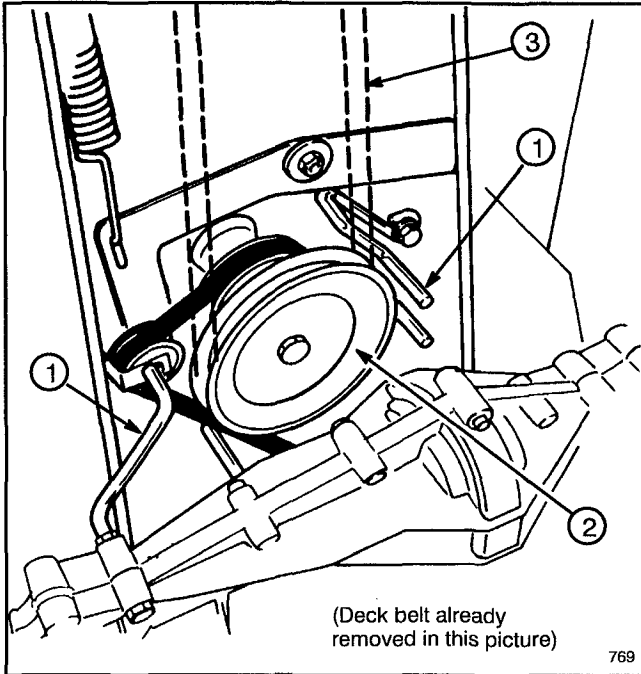

Figure 23
4. Loosen belt guides near engine pulley and rotate them out of the way. Remove deck belt from engine pulley (Fig. 23).
3. Loosen and remove (1) mounting screw securing each belt guide to cutting unit. Pivot belt guides away from spindle pulley and remove belt. Visually inspect belt for wear or damage (Fig. 23).
3. Remove deck belt from engine pulley (Fig. 23).